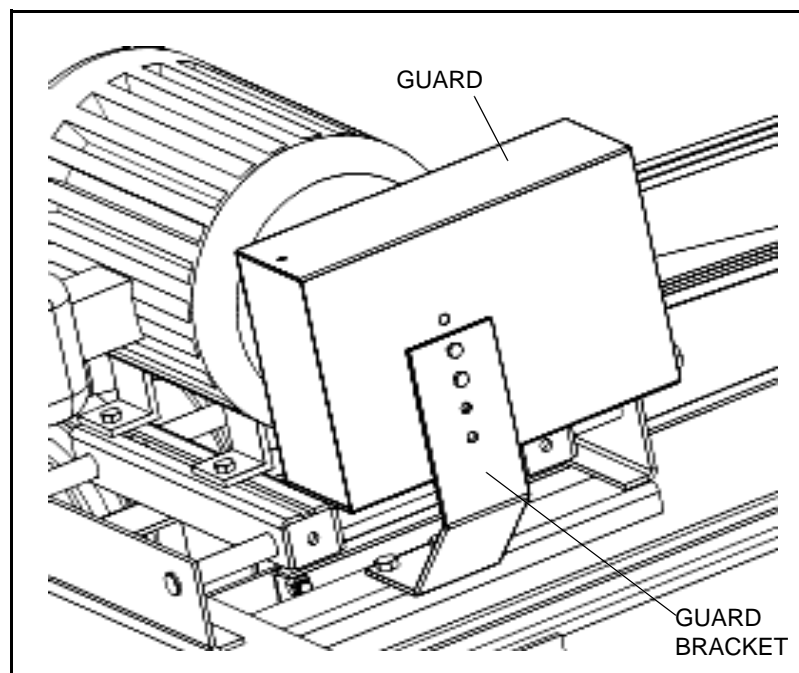

Figure 3.41 Electric Motor Pulley Guard
9. Install and secure pulley guard with two 1/4" x 1/2 flange head bolts and flange nuts (Figure 3.41).